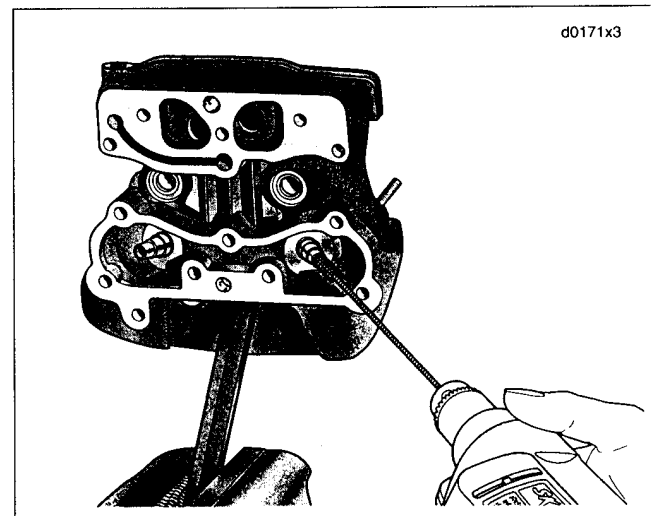

Figure 3-99. Honing Valve Guide Bore
8. See Figure 3-99. Obtain the VALVE GUIDE HONE (Part No. HD-34723-A) and REAMER LUBRICANT (Part No. HD-39964).